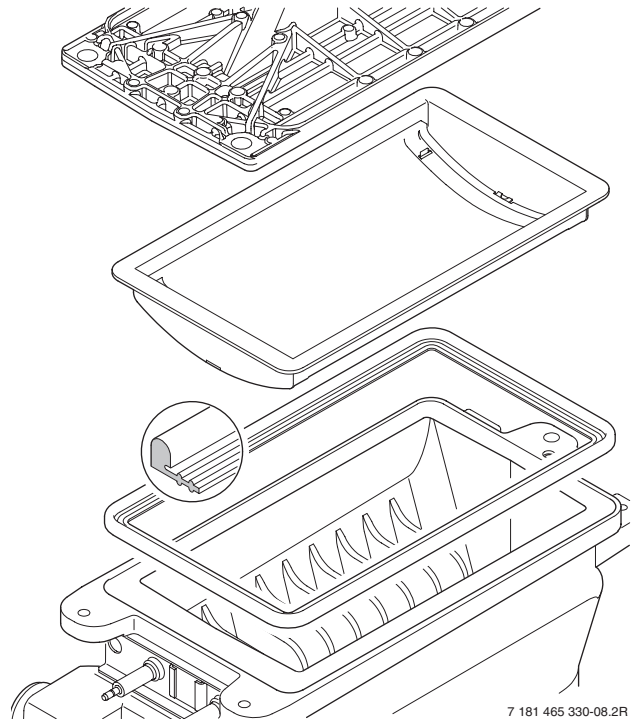

Fig. 52
- ▶ Remove the burner skin and clean components. Do not use a wire brush. Refer to fig. 52.